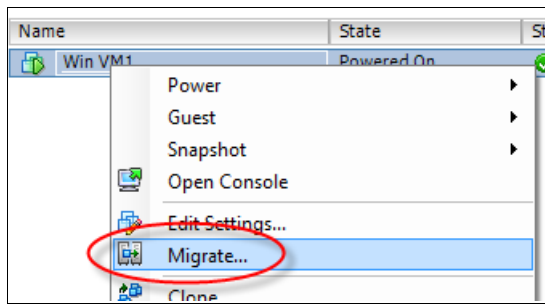

Figure 7-45 Start VM migration
2. Right-click the VM and select **Migrate** as shown in Figure 7-45.